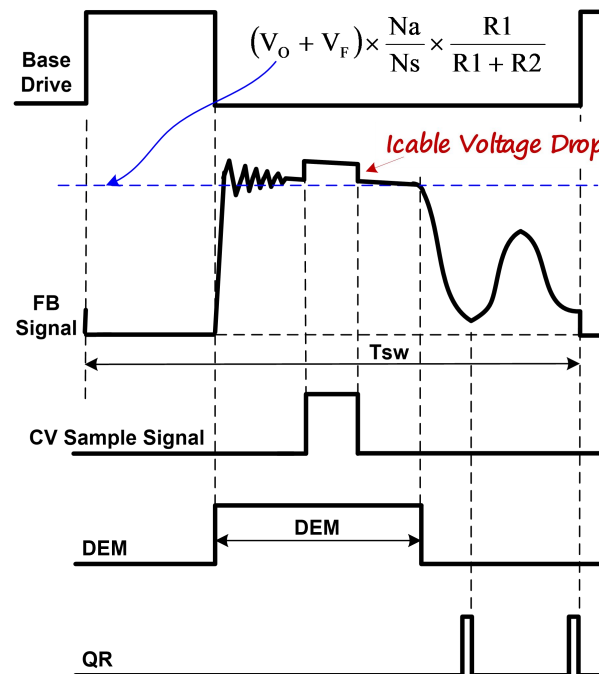

Fig.2
In Primary Side Regulation (PSR) control, the output voltage is sensed on the auxiliary winding during the transfer of transformer energy to the secondary. Fig.2 illustrates the timing waveform of CV sampling signal, demagnetization signal (DEM) and quasi-resonant (QR) trigger signal in DP2525C. When the CV sampling process is over, the internal sample/hold (S&H) circuit captures the error signal and amplifies it through the internal Error Amplifier (EA). The output of EA is sent to the Quasi Resonant PSR CV Modulator (QR-CVM) for CV regulation. A valley is selected to trigger new PWM cycle by the output of the QR-CVM block, which is determined by the load. The internal reference voltage for EA is trimmed to 2V with high accuracy.
During the CV sampling process, an internal variable current source is flowing to FB pin for Cable Drop Compensation (CDC). Thus, there is a step at FB pin in the transformer demagnetization process, as shown in Fig.2. Fig.2 also illustrates the equation for